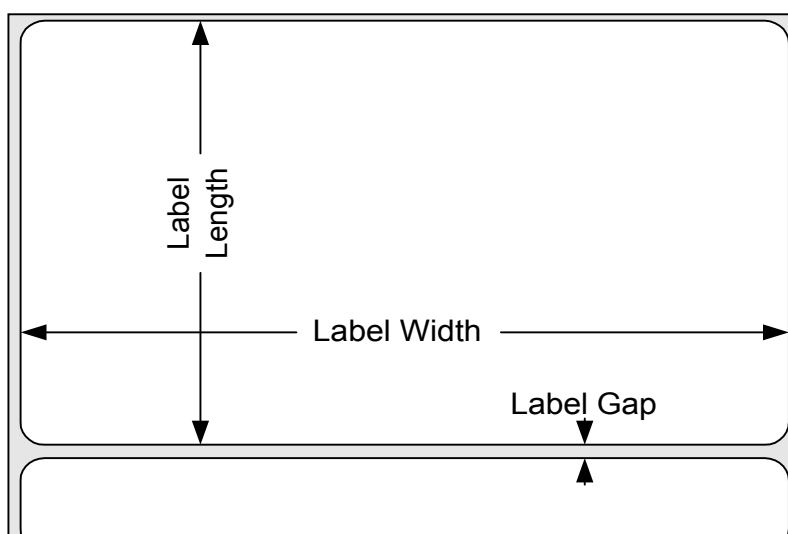

Figure 6 – Identification of Label Dimensional Features
Printing a label requires that the printer understand the exact dimension of each feature that makes up the label. Figure 6 diagrams a die cut label with a translucent backing. The dimensions shown indicate values the printer will need prior to printing a label. *(This procedure also addresses black bar labels and continuous labels.)*
6. Press the  key again. **Label Length** is the next parameter. Use the  or  keys to set the value to the label's length. This value does not include the **Label Gap** (see Figure 6). For label length information for other media types see this manual's **Media Settings** section.